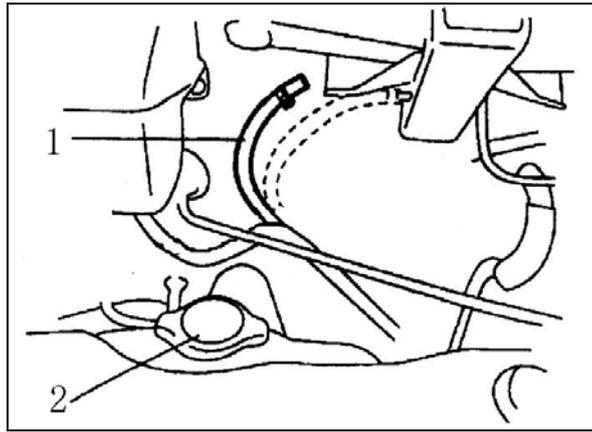

FIG.7-19
- 3) Fill radiator and reservoir tank to the “FULL” level mark. Insert the heater air bleed hose and install radiator cap and reservoir cap(FIG.7-19).